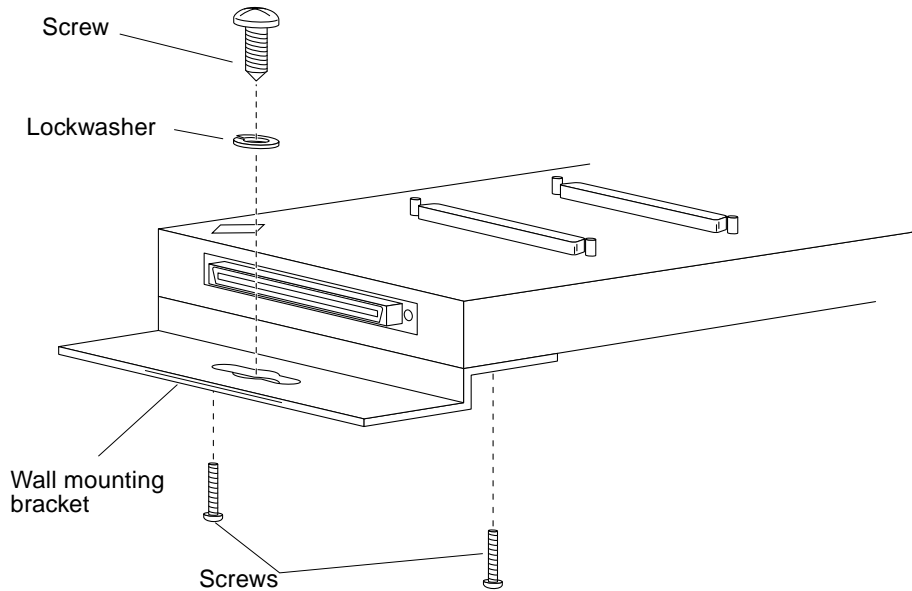

FIGURE 2-2 Attaching the Wall Mounting Bracket
1. Remove the screws that secure the four rubber feet to the bottom of the patch panel (FIGURE 2-2.).